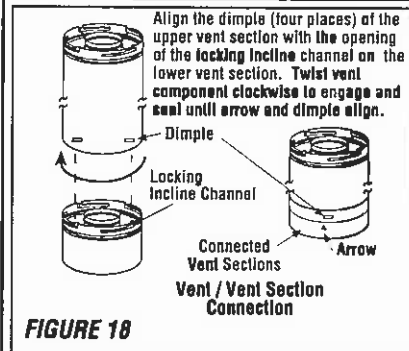

FIGURE 18
B. Attach vent components to appliance - Secure Vent SV4.5 direct vent system components are unitized concentric pipe components featuring positive twist lock connections (see **Figure 18**). All of the appliances covered in this document are fitted with collars having locking inclined channels. The dimpled end of the vent components fit over the appliance collar to create the positive twist lock connection.
C. Attach vent components to each other - Other vent sections may be added to the previously installed section in accordance with the requirements of the vertical vent figures and tables. To add another vent component to a length of vent run, align the dimpled end over the inclined channel end of the previously installed section, adjusting the radial alignment until the four locking dimples are aligned with the inlets of the four incline channels of the previous section. Push the vent component against the previous section until it fully engages, then twist the component clockwise running the dimples down and along the incline channels until they seat at the end of the channels. This seating position is indicated by the alignment of the arrow and dimple as shown in **Figure 18**.